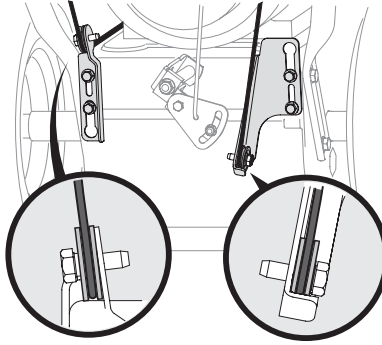

Figure 2-4
5. Observe lower rear area of equipment to be sure both cables (if equipped) are aligned and seated properly in roller guides. See Figure 2-4.